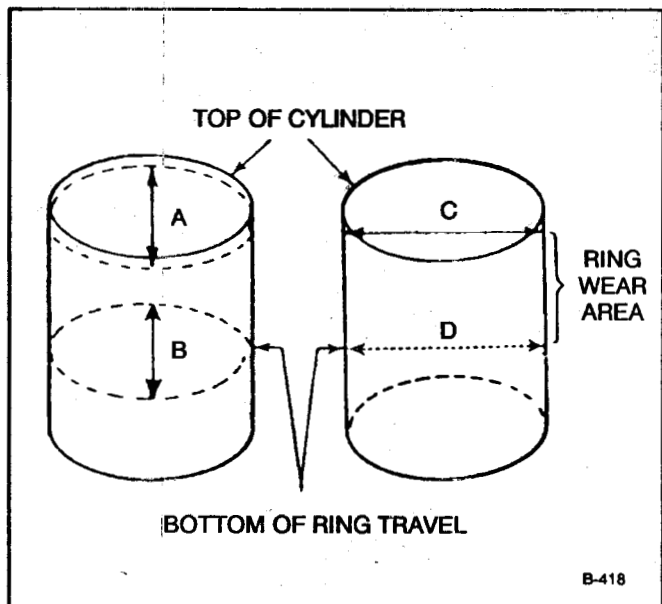

FIGURE 11-31. METHODS OF MEASURING THE DIAMETER OF A CYLINDER BORE
1. Check cylinder bore for taper, out of round, and wear with a cylinder bore gauge, telescopic gauge, or inside micrometer. These measurements should be taken at four places: top and bottom of piston ring travel, parallel and perpendicular to axis of crankshaft (Figure 11-31).